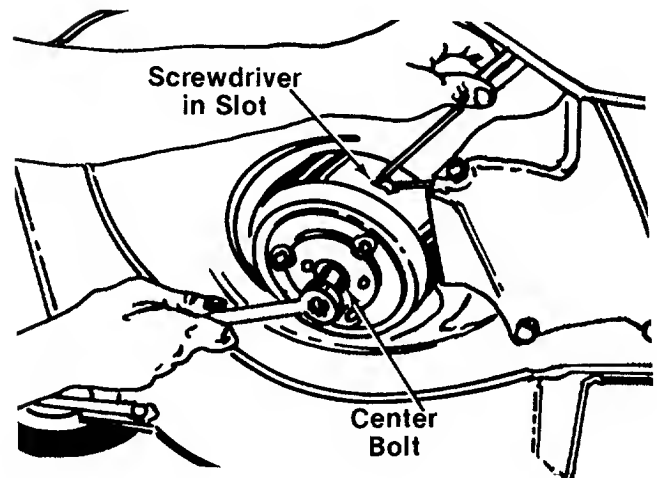

FIGURE 20.
- a. Insert a screwdriver into the slot provided in the blade brake/clutch housing where the control cable enters housing. See figure 20.